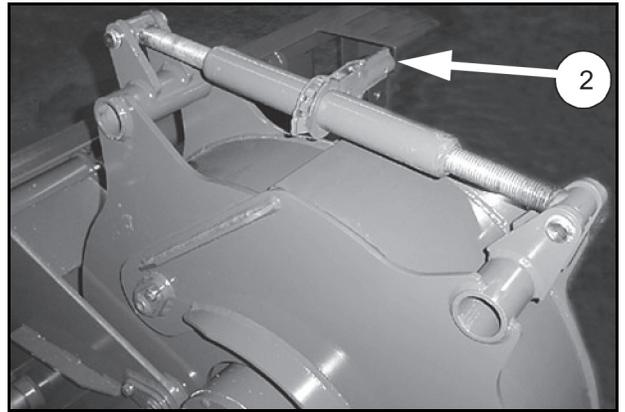

Figure 5. Manual Depth
4. Adjust the depth jack located at the top of the pavement saw (2) counter-clockwise for a deeper cut or clockwise for a shallower depth as shown in Figure 5.